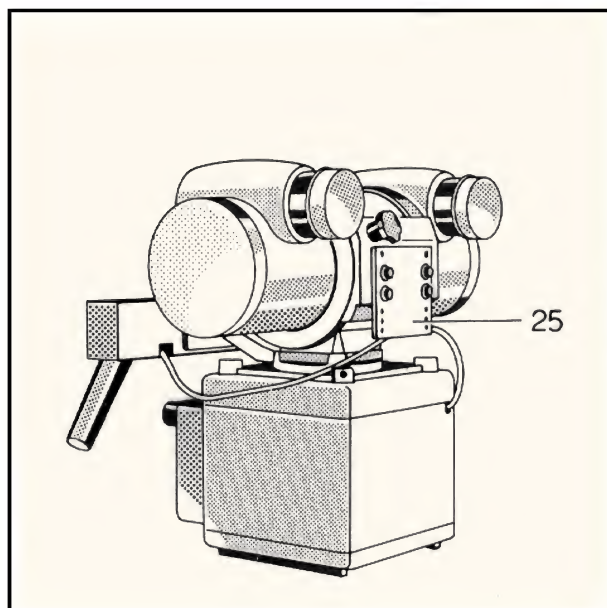

Fig. 13
**Note:** Move the center of gravity of the tube-collimator assembly into the tube support arm by displacing the unit vertically on the compensating plate (Fig. 13/item 25). Even though the compensating plate (item 25) is not needed, it must be mounted as a spacer plate.